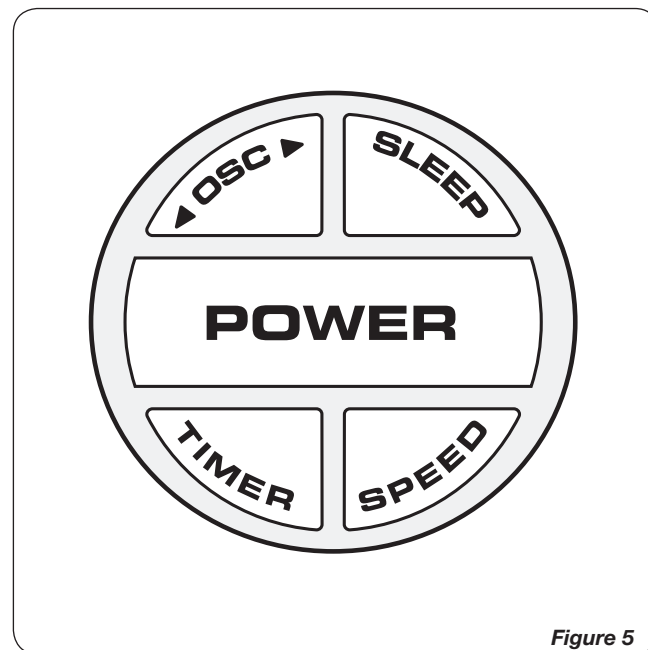
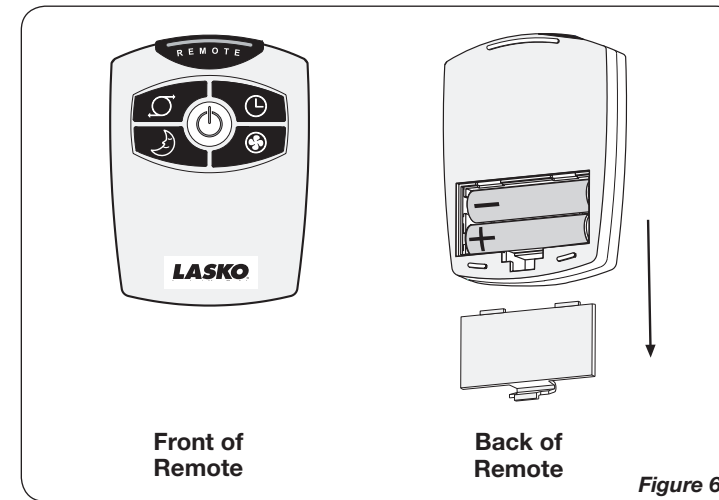

Figure 5
Figure 6
This Fan may be operated by the Manual Controls located on top of the unit (as shown in *Figure 5*) or by the Remote Control (shown in *Figure 6*).
#### REMOTE CONTROL (Figure 6)
1. Install batteries (not supplied) as shown in *Figure 6*. The battery is size "AAA".